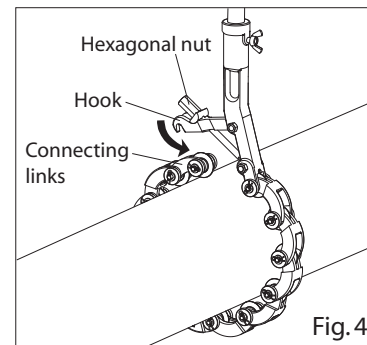

Fig. 3
- Use a monkey wrench or similar to turn the flat head side of the link pin, and remove the pin so as to release the roller, washer and blade wheel. (Fig. 3)